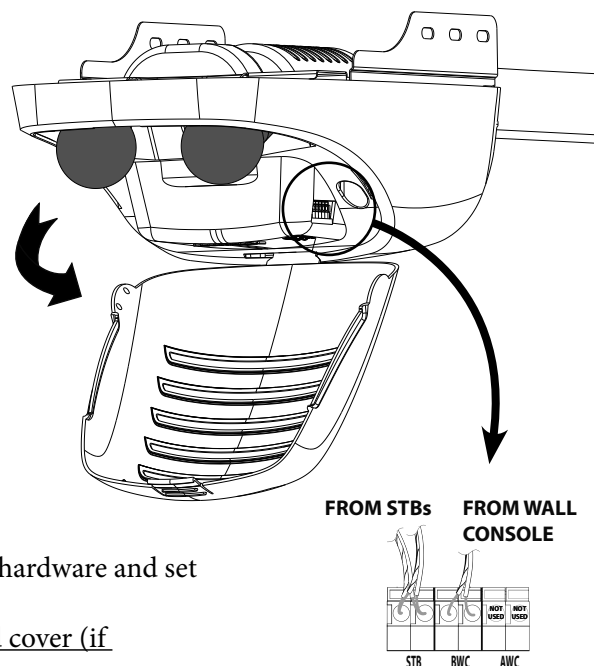

FIG. 1.
3. Open lens cover by pressing middle tab inward to swing down and remove light bulbs. Fig. 1.
4. Remove wall control and Safe-T-Beam wires from terminal block located on side of opener fig. 1. Use small common screwdriver to press in on orange tabs while gently pulling wires from block. Mark wires to help facilitate replacement.